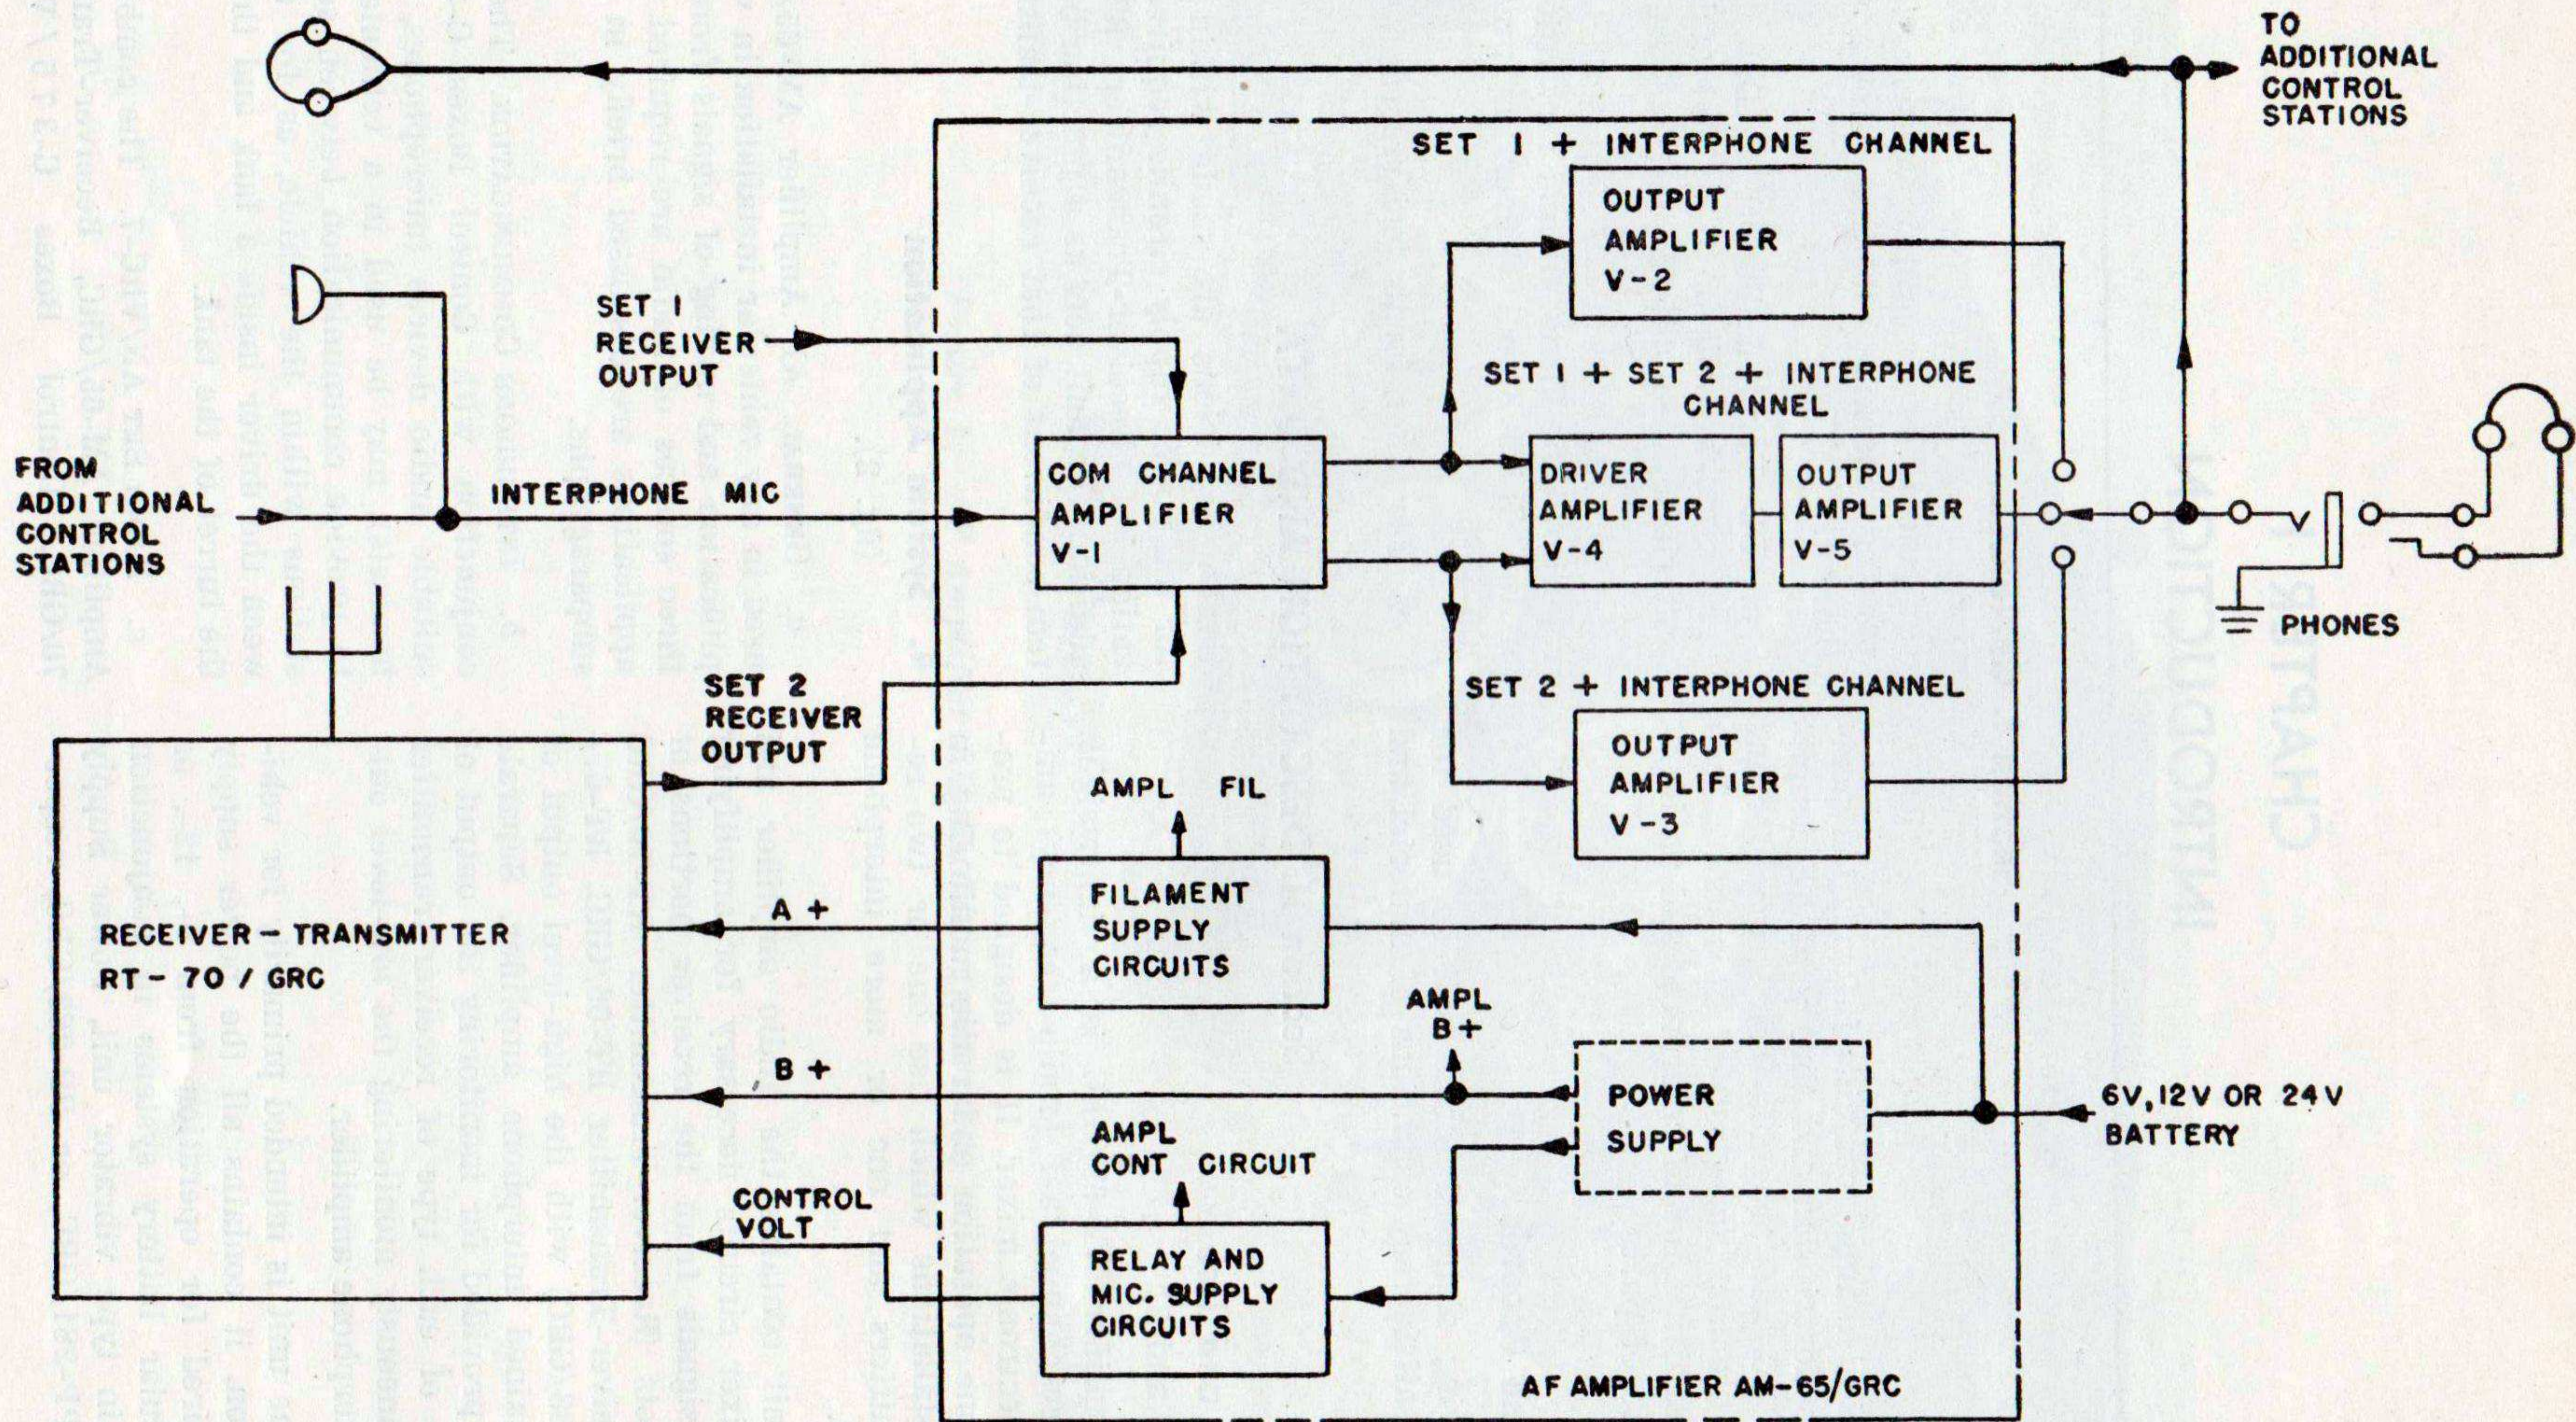

Figure 2. System application.
3. Compression: Tilt the head forward until your arms are perpendicular to the chest and allow the weight of the upper part of your body to exert a slow steady even downward pressure upon your hands. The force at the end of the fingers. Keep your elbows straight and press almost directly downward on the chest (Fig. 2).
(fig. 2).
Supply PP-448/GR, PP-281/GRC, or PP-282/GRC, and suitable mountings, cables, audio accessories, and other installation components may be used in the radio installation known as Radio Set AN/VRC-7. Figure 2 is a functional block diagram of this set. In this arrangement, the amplifier provides an interphone channel between control stations, monitoring of the interphone channel and the receiver output of Receiver-Transmitter RT-70/GRC (Set 2), and all operating potentials for its own circuits and for those of the receiver-transmitter. These functions are described below.
(1) *Signal circuits.* Speech signals from the microphone, shown connected directly to the amplifier (fig. 2), or signals from any one of the control stations associated with the installation enter the common amplifier channel and are amplified there. Speech signals from the output of the receiver in Receiver-Transmitter RT-70/GRC (Set 2) enter the common channel amplifier over a separate path and are amplified also. (Set 1 is not used in Radio Set AN/VRC-7 and, therefore, does not enter into the discussion here.) An audio mixing arrangement associated with the common channel amplifier distributes the two signals at the proper levels to the three channels as follows: a portion of each of the two signals is routed to the Set 2 + Interphone channel, is amplified there, and appears at the output terminals of that channel; another portion of each of the two signals is routed through the Set 1 + Set 2 + Interphone channel and, after amplification, is made available at the output terminals of that channel. The arrangement of the audio mixer circuit is such that the Set 2 signal is blocked from entering the Set 1 + Interphone channel. However, the microphone signal, appearing at the output of the common channel amplifier, is permitted to enter the Set 1 + Interphone channel, is amplified there, and is made available at the output terminals of that channel. The signals appearing at the output terminals of the three channels may be monitored at any one of the control stations associated with the installation. The three-position switch, shown connected to the three-channel
d. RADIO SETS AN/GRC-3 THROUGH AN/GRC-8. These radio sets include all the components mentioned in *c* above and, in addition, one Receiver-Transmitter RT-66/GRC, RT-67/GRC, or RT-68/GRC. Also they may include one auxiliary Radio Receiver R-108/GRC, R-109/GRC, or R-110/GRC. By connecting either one of the receiver-transmitters or one of the receivers listed above to the Set 1 receiver output lead (fig. 2), the block diagram of figure 2 becomes representative of Radio Sets AN/GRC-3 through AN/GRC-8.
(1) *Signal circuits.* Speech signals from the microphone and from Set 2 enter the amplifier and are routed through the three channels (fig. 2), as described in *c* (1) above. Signals from Set 1 are applied to the common channel amplifier over a separate connection. After amplification, these signals are routed (together with the microphone signals) to both the Set 1 + Interphone and the Set 1 + Set 2 + Interphone channels. The Set 1 signals are blocked from the Set 2 + Interphone